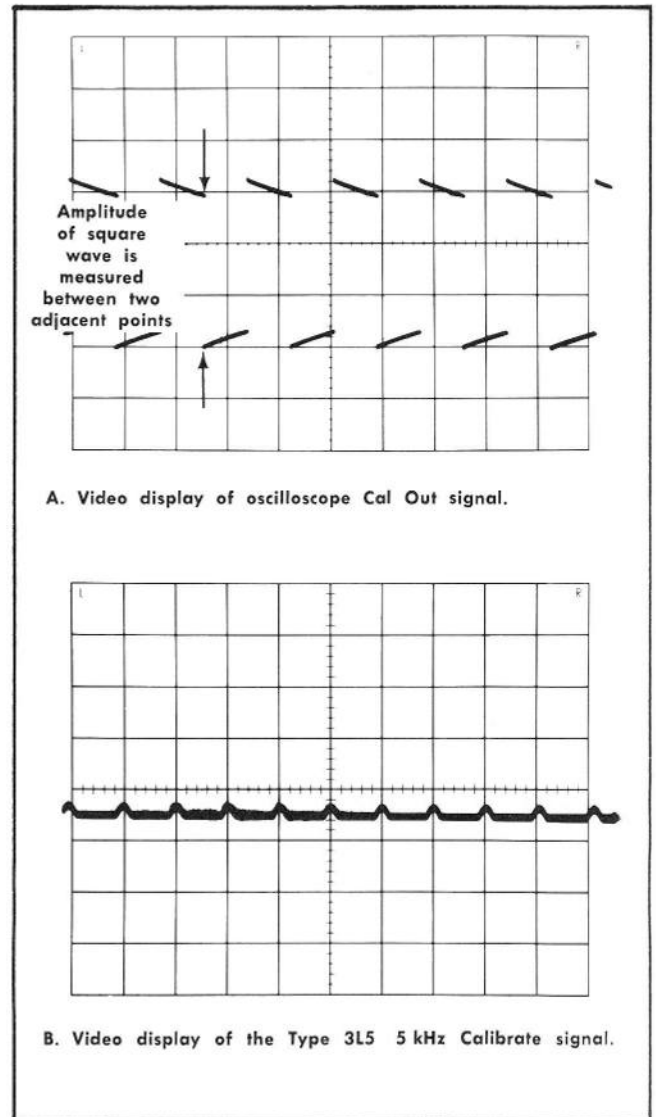

Fig. 2-5. Typical video displays.
c. Adjust the Triggering controls for a stable triggered display (see Fig. 2-5). The AC coupled stages cause the slope between the top and bottom portions of the calibrator waveform.